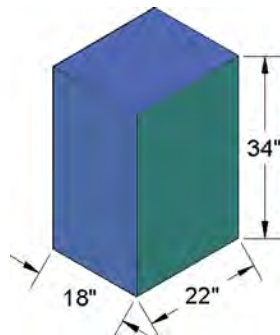

FIGURE 24.18
Step 1. Clear your screen of previous work, and make sure you are in the SW Isometric view. Starting from the beginning, draw a 22" × 18" rectangle and extrude it to 34". The result is a block of material similar to what we just created when we practiced the taper command. It is shown shaded, we use a different color, in Figure 24.18.